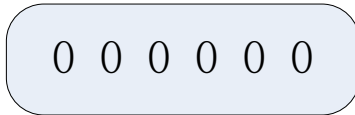
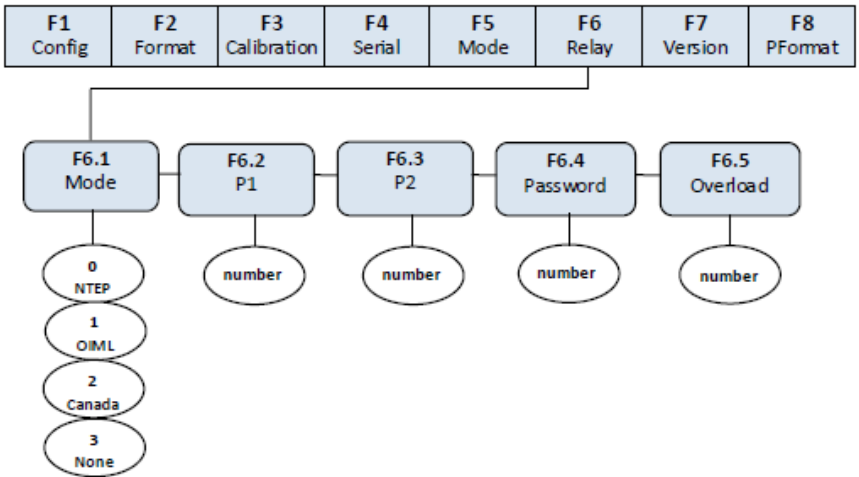

Fig. 10.2 Editing Procedure for Numerical Values
Fig. 12.1 Relay Output Menu
- 2) Press until the display shows “F3” (see Fig. 10.2). Press to go to zero calibration mode. Display shows “F3.1”.
- 4) When display shows “F3.2”, place test weight on the scale and press  to show the test weight value. Follow Fig. 10.2 to input the test weight value, then press  to save the value and go to the next menu. Display shows “F3.3”.
- 2) Press  until the display shows "F3" (see Fig. 10.2). Press  to go to zero calibration mode. Display shows "F3.1".
- (3) Press  when display shows “F5.2”. Display shows and asks a code number for your count items average weight settings. The code number will be saved in the memory and represents the code for your count items average weight settings. The code numbers are from 01 to 99. The code “00” is reserved for Fast Setup of Count Items Average Weight ( refer to Section 7.3.8 ). Follow the procedure in Fig. 10.2 to input and edit the code number. Press  to save the code number and proceed to the next menu. The display shows “F5.3”.
- (4) Remove all the weight from the scale platform when display shows “F5.3”. Press  to zero the scale. Display shows “CAL” while processing the zeroing operation. When completed, display shows “F5.4”
- (5) Press  when display shows “F5.4”. Display shows the sampling quantity of the count items. Use ,  keys to specify the sampling quantity. Place the samples in the platform of the scale. The quantity of the samples must be the same with what you specified in the sampling quantity. Press  to proceed to the next menu. Display shows “F5.5”.
- (6) Press  when display shows “F5.5”. Display shows “CAL” while processing the average weight setting. When completed, there are two (2) possible outcomes :
- (1) Turn on the K1, SW2 or J1 switch to set indicator to the Configuration mode (display shows “F1”).
- (2) Press  $\triangleright$  until display shows “F6” (see Fig. 12.1). Press  $\nabla$  to go to the Relay Output Menu. Display shows “F6.1”.
- (3) When the display shows “F6.1”, press  $\triangleright$  to go to the F6.2 Menu and display shows “F6.2”.
- (4) When display shows “F6.2”, press ▼ and display shows the value of Relay 1 setting. Edit Relay value according to editing procedures in Fig. 10.2. When completed, press ○ to store the value and return to F6.3 Menu. Display shows “F6.3”.
- (5) When display shows “F6.3”, press ▼ and display shows the value of Relay 2 setting. Edit Relay value according to Fig. 10.2. When completed, press ○ to store the value and return to F6.1 Menu. Display shows “F6.1”.
- (6) Turn off the K1, SW2 or J1 switch to exit from Calibration mode and enter into Weighing Mode.